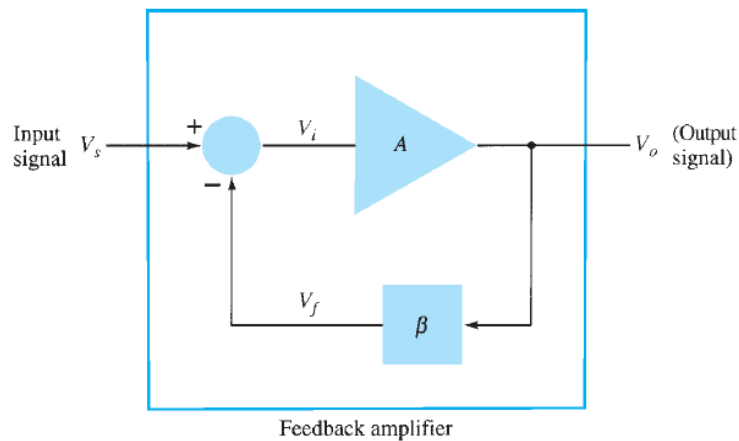

Fig.1
A typical feedback connection is shown in Fig. 1 . The input signal  $V_s$  is applied to a difference block, where it is combined with a feedback signal  $V_f$  to produce  $V_i$  which is then the input signal to the amplifier (A). A portion of the amplifier output  $V_o$  is connected to the feedback block ( $\beta$ ), which provides a feedback signal to the difference block.